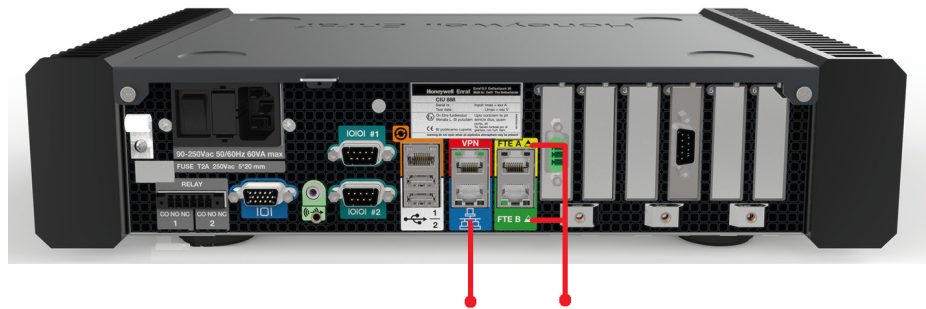

FIGURE 4-8
- PC/laptop running the Modbus TCP/IP Host via one of the configured ethernet host ports using network cable (see FIGURE 4-8)